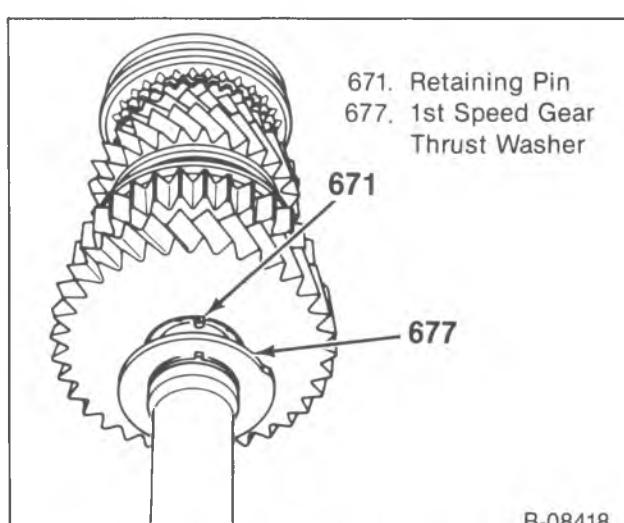
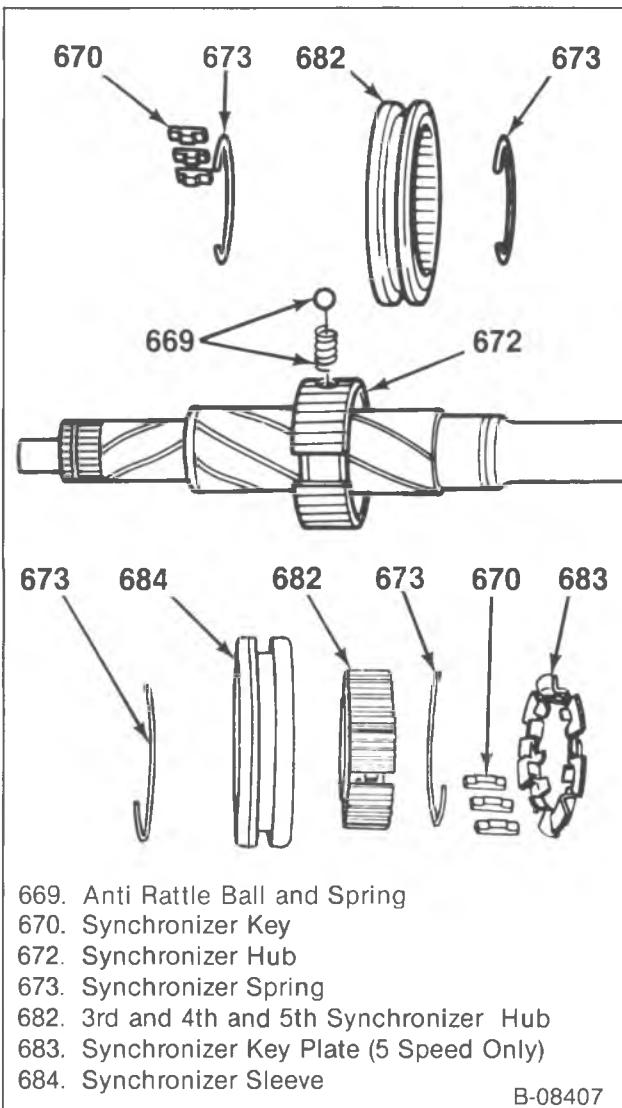
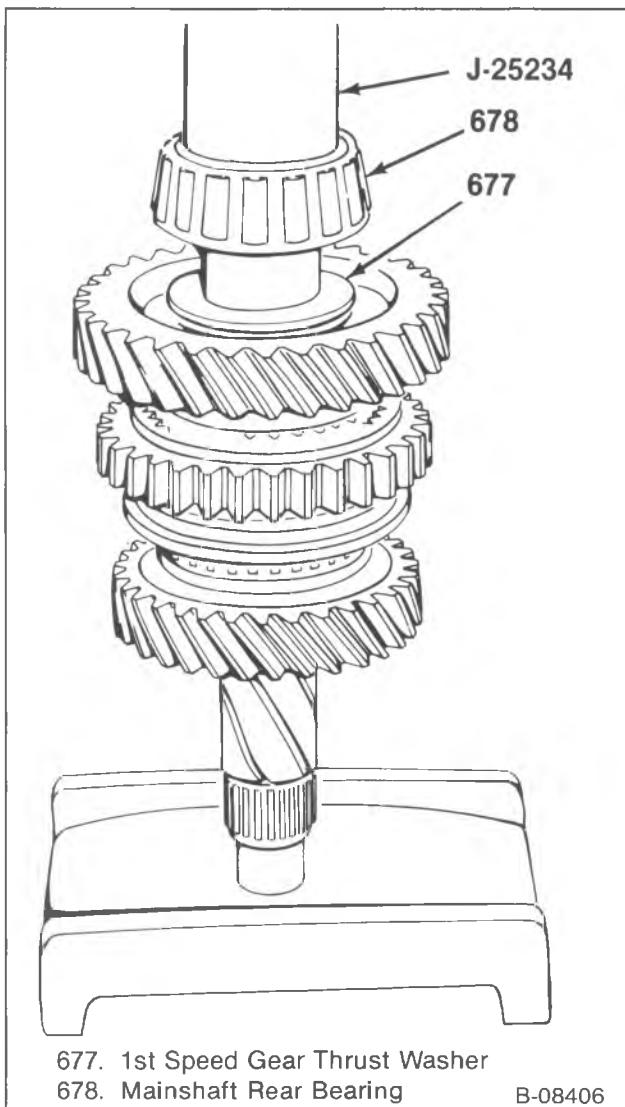

Figure 21—1st Speed Gear Retaining Ring
Figure 22—Synchronizer Components
Figure 24—Installing the Mainshaft Rear Bearing
- 7. Remove the 1st speed gear thrust washer (677).
- 8. Pull the retaining pin out and remove the 1st speed gear (676) (figure 21).
- 9. 1st and 2nd speed synchronizer sleeve (674) (figure 22).
- Do not lose the antirattle ball and spring (669) (5 speed only).
- 10. Synchronizers (630 and 662) (figure 22).
- 1. Synchronizers (630 and 662) (figure 22).
2. 1st and 2nd speed synchronizer sleeve (674) (figure 22).
- Hold the antirattle ball and spring (669) in the hub (5 speed only).
3. Slide the 2nd speed blocker ring (668) onto the mainshaft.
4. Slide the 2nd speed gear (667) on with the cone into the blocker ring.
5. 2nd speed gear thrust washer (666) and a new snap ring.
6. Slide the 1st speed blocker ring (675) onto the mainshaft.
7. Install the 1st speed gear (676) and a new retaining pin (figure 21).
8. Slide the 1st speed gear thrust washer (677) against the gear.
9. Install the mainshaft rear bearing (678).
- The bearing may have to be pressed on using J 25234 (figure 24).
10. Install the 5th speed driven gear (679) using J 22912-01 (5 speed only).
11. Slide the 3rd speed gear (664) on with the cone to the front.
12. Slide the 3rd speed blocker ring (663) onto the 3rd speed gear.
13. Install the 3rd and 4th synchronizer (662) with the hub offset to the front.
14. Slide the 4th speed blocker ring (661) into the 3rd and 4th synchronizer.